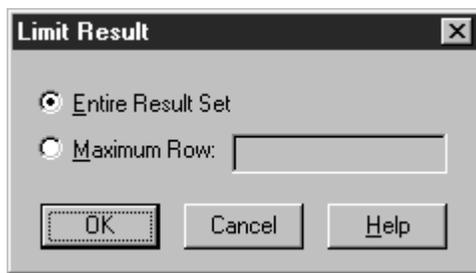

Figure 6.6 Limit Result Dialog
1. Select Database ⇒ Limit Result to open the Limit Result dialog (see Figure 6.6).